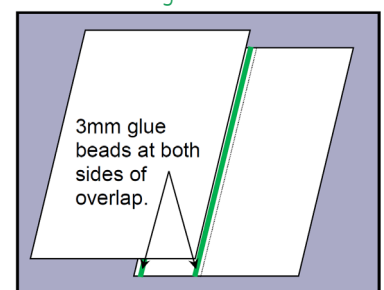

Figure 2
- Each tube will do 43.85 metres of bead. The overlap should be double beaded i.e both sides of the lap should be glued (See Figure 2)